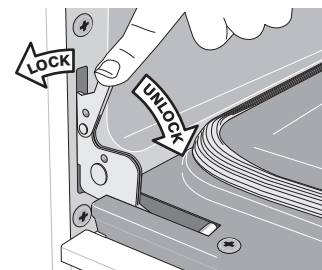

Figure 10: Door hinge locks
2. Pull the door hinge locks on both left and right door hinges down from the oven frame completely towards the oven door (See Figure 10). A tool such as a small flat-blade screwdriver may be required.
4. Push the door hinge locks up towards and into the oven frame on both left and right oven door hinges to the locked position (See Figure 10).